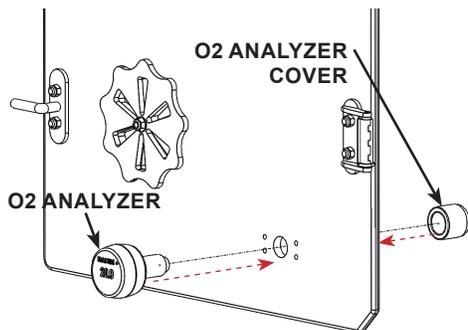

FIGURE 3.24 - O₂ Analyzer Installation
- A:** O₂ analyzer - Insert the O₂ Analyzer into the bottom hole of the door, turning the cover (backside) clockwise to secure to the door. See FIGURE 3.24